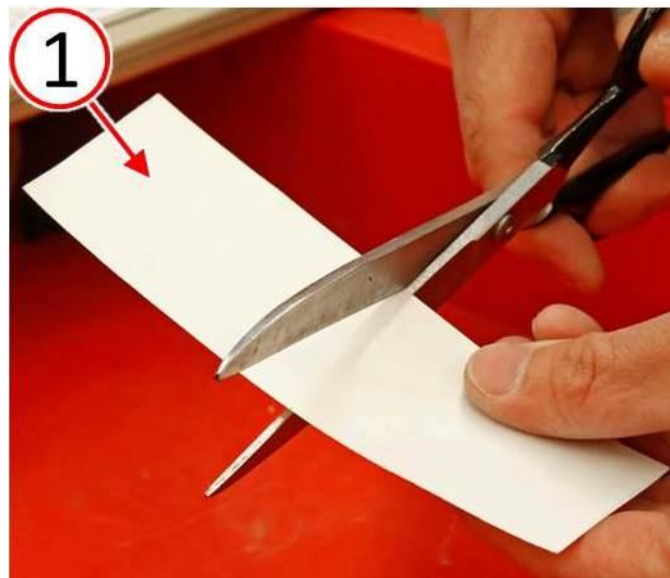

Fig. 5 Cut Tape In Half
12. Cut the tape (1) in half (Fig. 5).